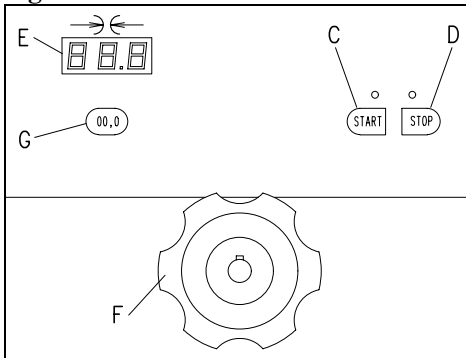

Fig.3
- Press the START button **C**. **Fig.3**